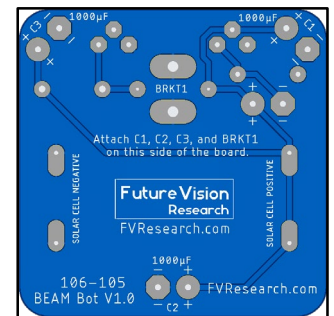

Figure 2 – PCB Bottom
For the next few steps, turn the PCB over so you can see that text that says, "Attach C1, C2, C3, and BRKT1 on this side of the board". (Figure 2)
9) The last step is installation of solar cell SC1. This solar cell sits on the top of the board, so be sure to flip back to the top side, which displays the words "SOLAR CELL". (Figure 2)